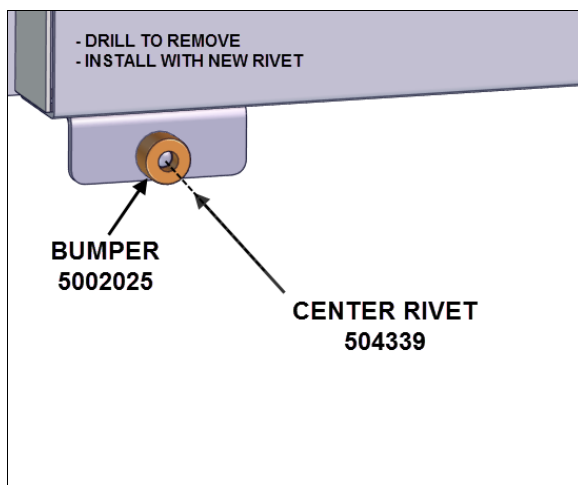
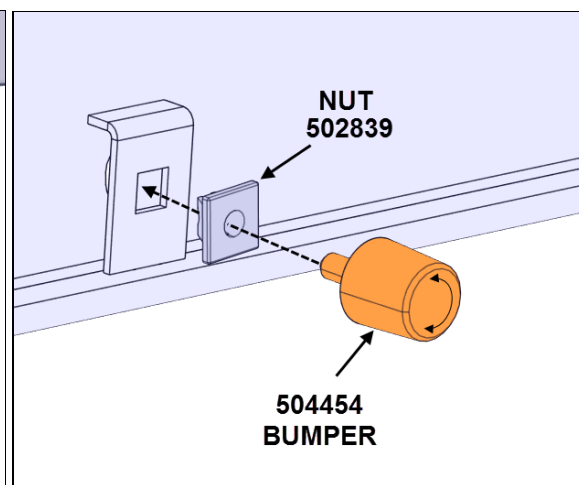

FIG.18 UPPER BUMPER REMOVAL & INSTALLATION
FIG.19 LOWER BUMPER REMOVAL & INSTALLATION
17. Inspect and replace as required both upper and lower door bumper(s) as shown in Fig.18 & Fig.19.